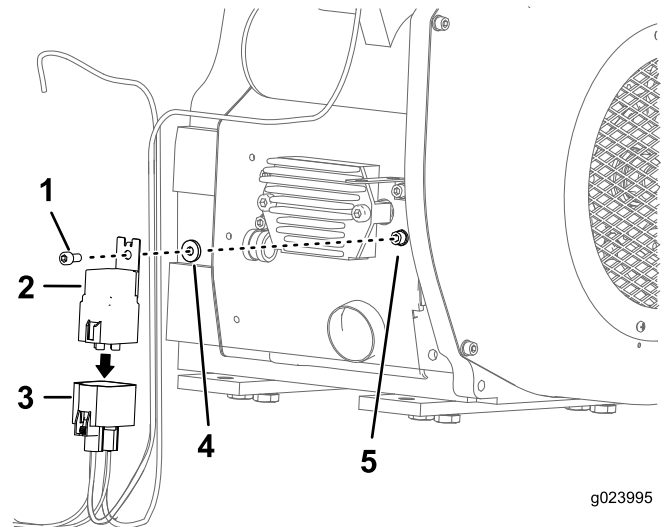

Figure 3
5. Remove the bolt on the right side of the engine (Figure 3).
6. Connect the glow-plug wiring harness block to the relay switch and secure the relay switch onto the engine using the bolt previously removed and the spacer, as shown in Figure 3.